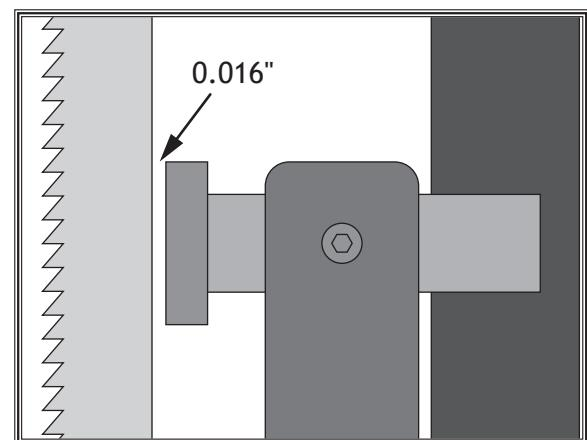

Figure 46. Bearing positioned approximately 0.016" away from back of blade.
3. Position support bearing approximately 0.016" away from back of blade, as illustrated in Figure 46.
Note: The roller discs should be positioned behind the gullets at a distance equal to that of the support bearing behind the blade (see **Figure 46** on **Page 34**).
Note: The guide bearings should be positioned behind the blade gullets a distance equal to that of the support bearing behind the blade (see *Figure 46 on Page 33*).